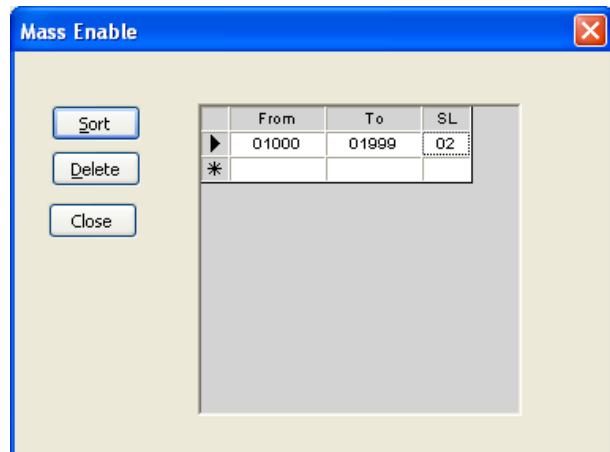

Figure 37
3. Click the SORT button. The codes will now be turned on and the range that you entered in step 3 will move to the field below (Fig. 37).